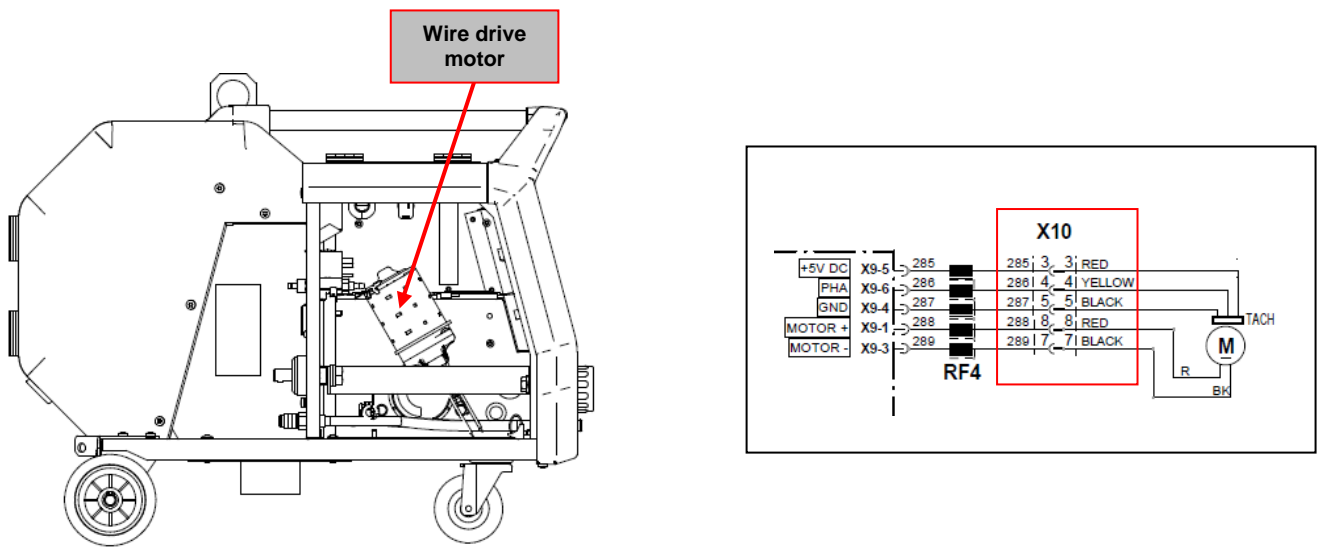

Figure 1 – Wire drive motor location and connectors
3. Located the wire drive motor. See **Figure 1**.